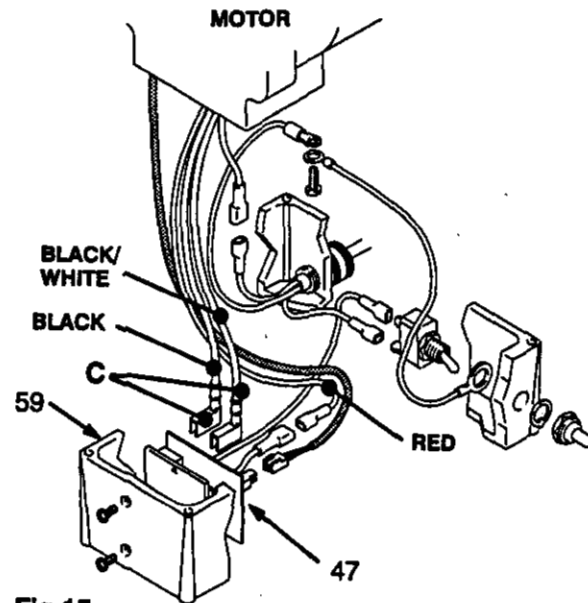

Fig 15
Remove the junction box screws (56). Lower the junction box. Disconnect the two leads (C) from the motor to the board (47). See Fig 15.